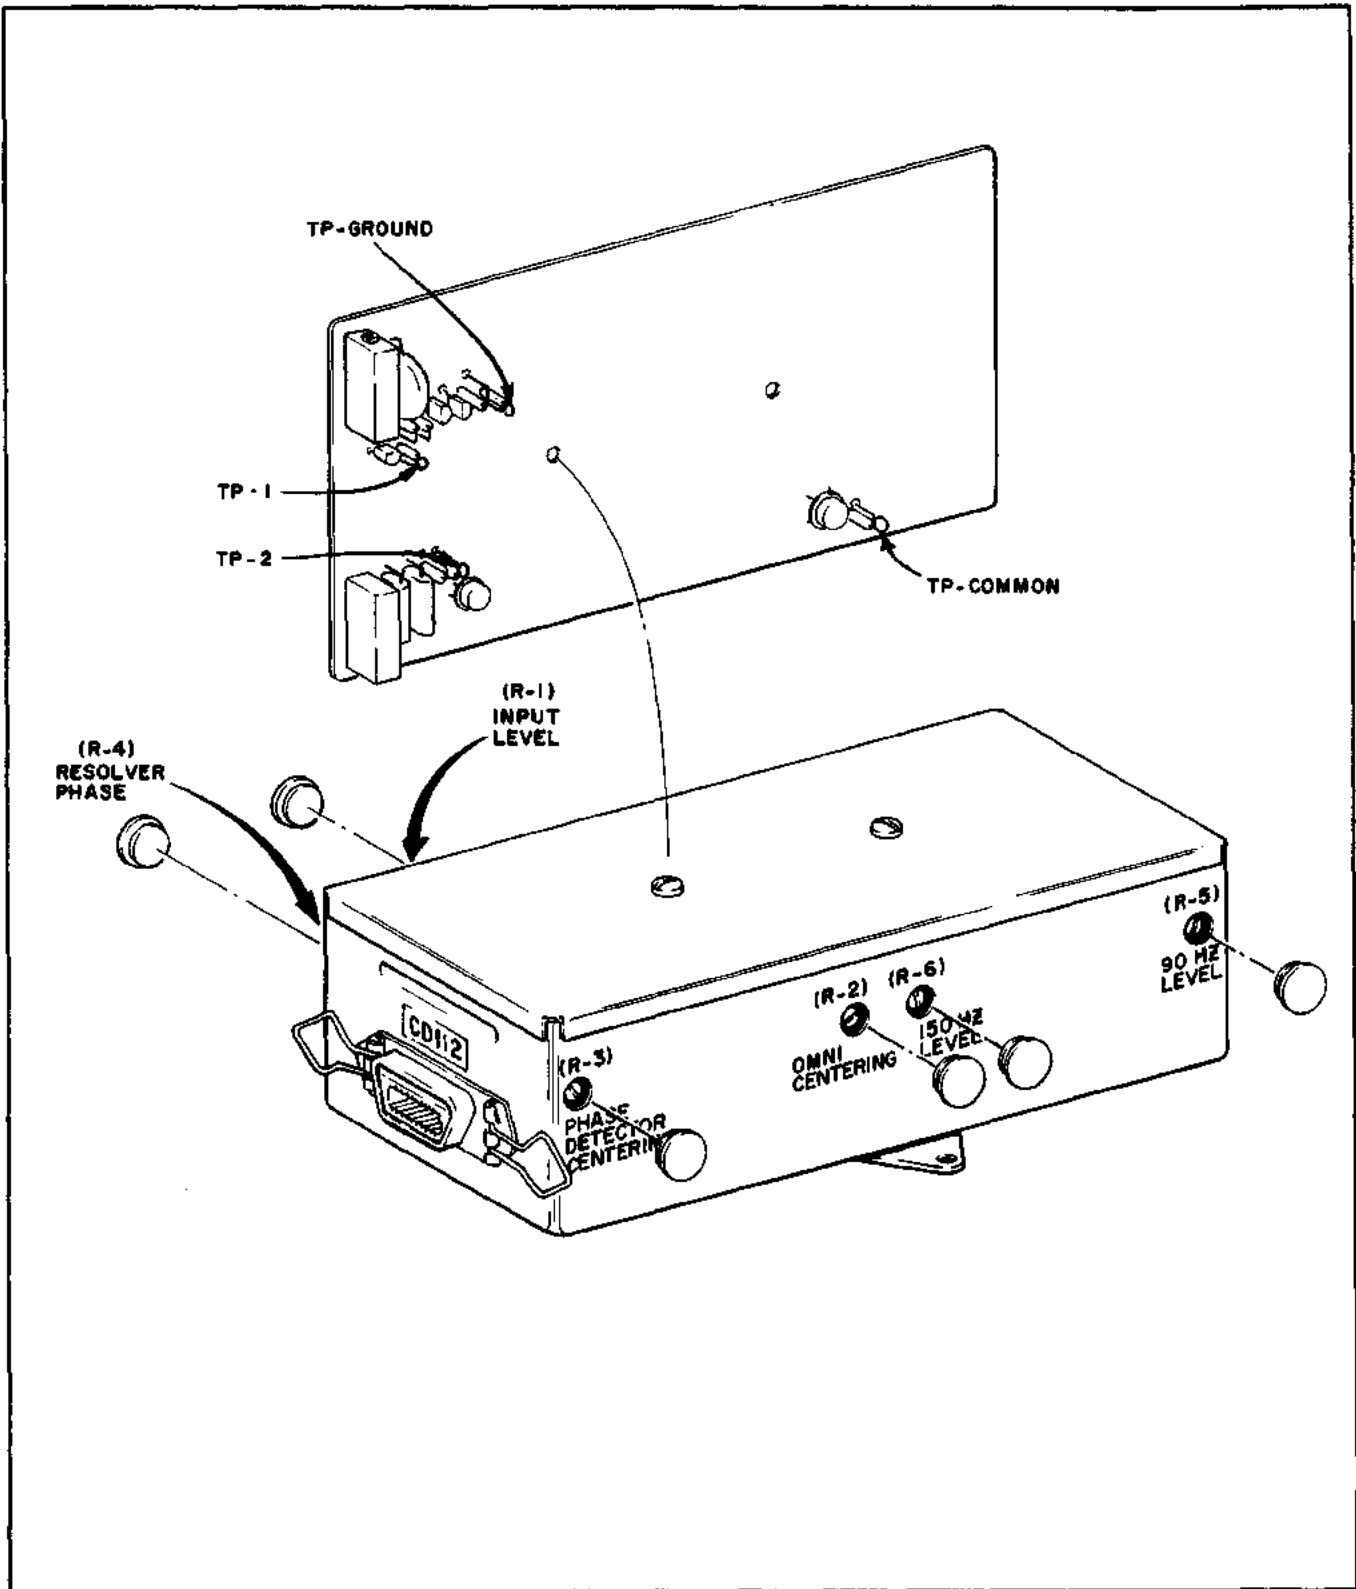

Figure 5-8. NAV Converter (IC707) Adjustment Potentiometers
- a. 1C707 OMNI/LOCALIZER CONVERTER SET UP PROCEDURE. (Refer to Figure 5-8.)
5. With a standard VOR signal applied adjust R-1 VOR receiver (input level) for 4.0 VP-P or 1.41 VRMS at Test Point 1. See Figure 5-8. (See Note)
6. Check for 4 VP-P or 1.41 VRMS \pm 15% at Test Point 2. See Figure 5-8. (See Note)